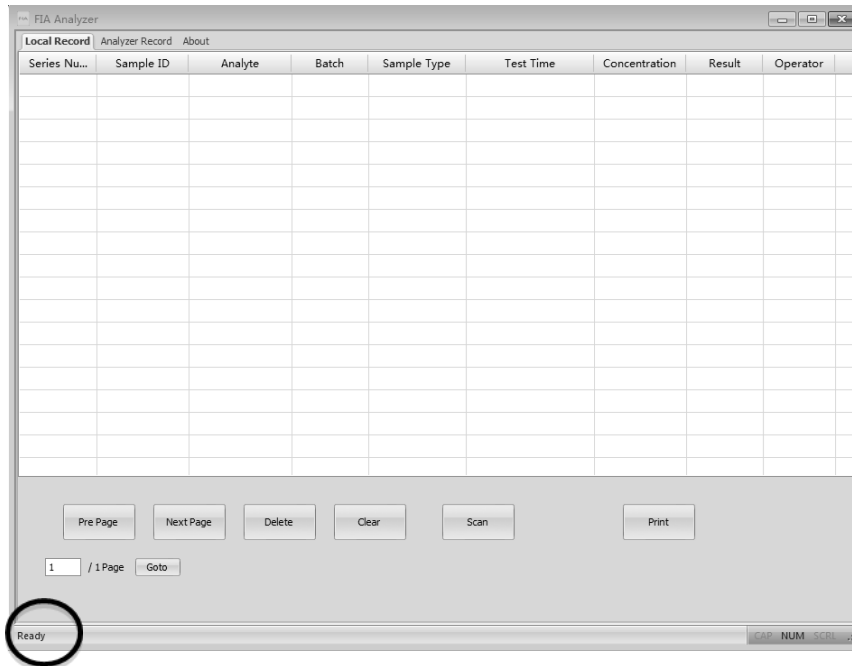

Fig 37
3. Double-click the icon  on the desktop screen to open the homepage of the software (Ref Fig 37)